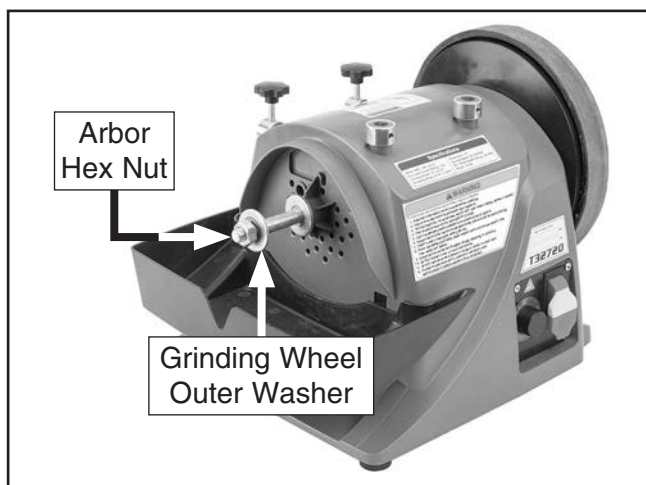

Figure 9. Location of grinding wheel arbor hex nut and outer washer.
7. Remove grinding wheel arbor hex nut and outer washer (see **Figure 9**).